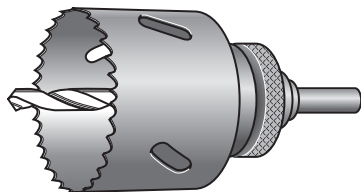

Figure 12.5
- (ii) Give the name of the item of equipment shown in Figure 12.5 that could be used to cut a Ø90 hole in the plywood.